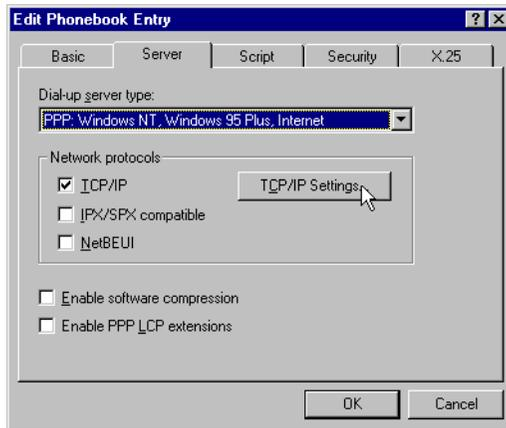

Figure 87. Server page of Phonebook
2. Edit the Server page of Phonebook (Figure 87 on page 104).